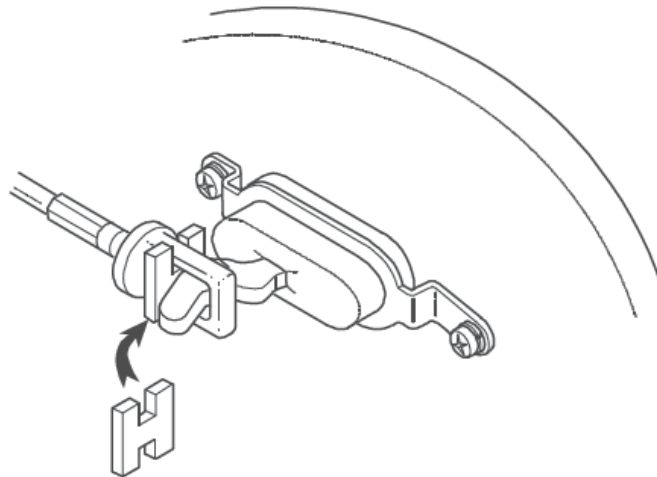

Figure 10 Fitting of Brake Cable and 'H' Plate
- q.** Fit the 'H' plate to the cable end, move the brake shoe draw link to the fully applied position and slip the cable connecting piece onto the lever (Figure 10).